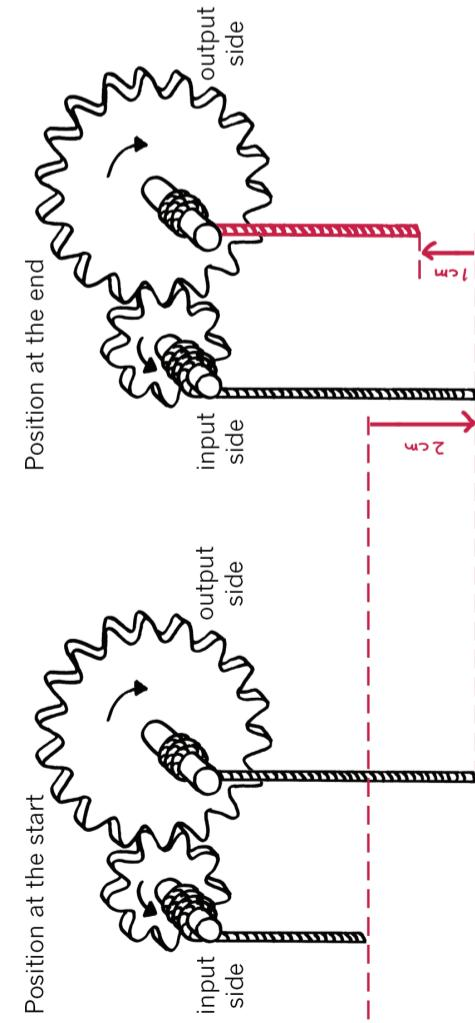

Figure 14
Look at Figure 14 below. The input (driver) gear has 9 teeth and the output (driven) gear has 18 teeth. A rope is wound around each axle.
- If you pull the input rope down by 2 cm, how far will the output rope be pulled up? Draw the vertical part of the output rope in the “position at the end” part of Figure 14 to show where the output rope will be after you pulled the input rope down by 2 cm.
The output rope is pulled up by half of the distance that the input rope is pulled down: $2 \text{ cm} \div 2 = 1 \text{ cm}$. Learners have to indicate this on the “Position at the end” in Figure 14.